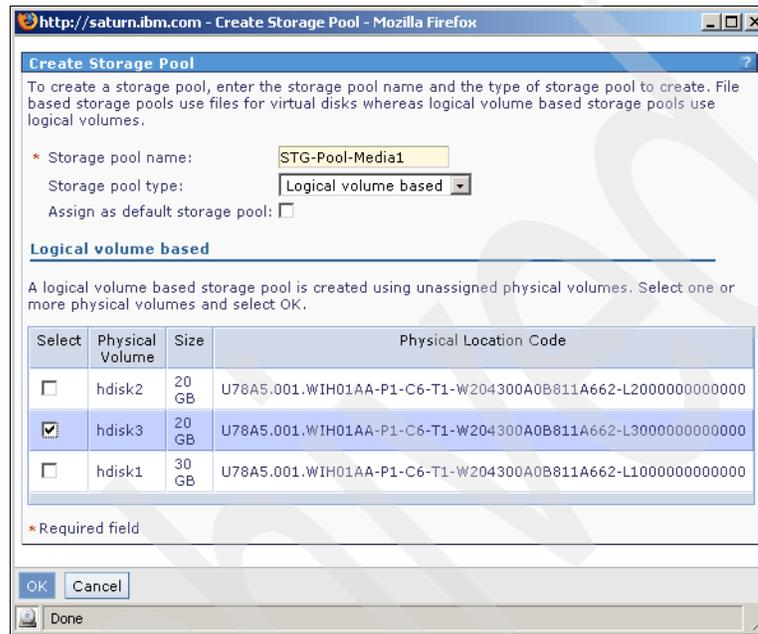

Figure 4-2 Media library - select the physical volume
- Specify the name of the storage pool and select the physical volumes that will be assigned to this storage pool. Figure 4-2 shows that we used the name STG-Pool-Media1. The type of the volume group is *logical volume base*. This allows to increase the space of the media library when needed. Physical volume hdsik3 is assigned to this pool. Click **OK**.